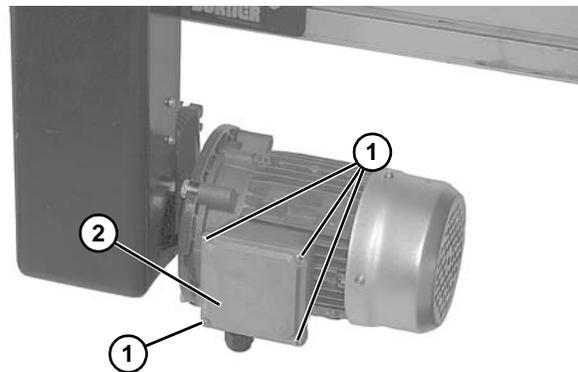

Figure 27
- Loosen terminal box screws (Figure 27, item 1) and remove cover (Figure 27, item 2).